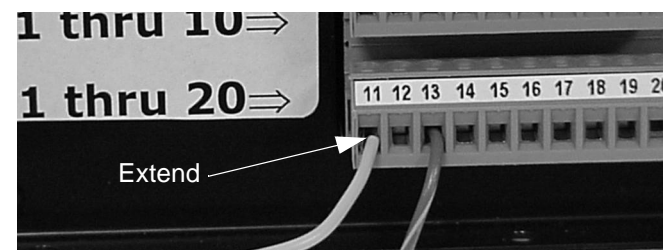

Figure 31. Extend Contact Wiring
2. Connect the extend to terminal #11 (see Figure 31).